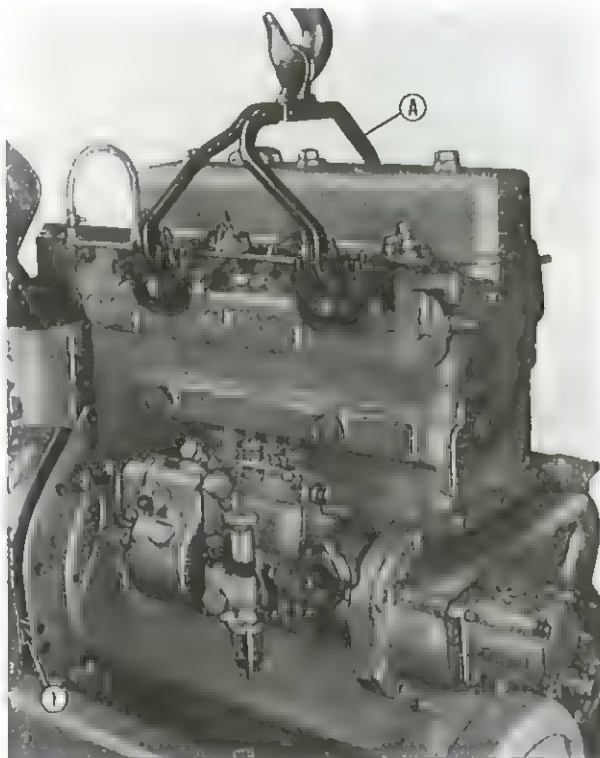

Fig. 57. - Removal of engine from tractor.
- The engine is now ready for removal from the tractor. Using the special engine lifting bar **ARR 413005** and proper lifting equipment (Fig. 57) slowly move the engine forward to free it from guide dowels (1, Fig. 57), and lift it as necessary.